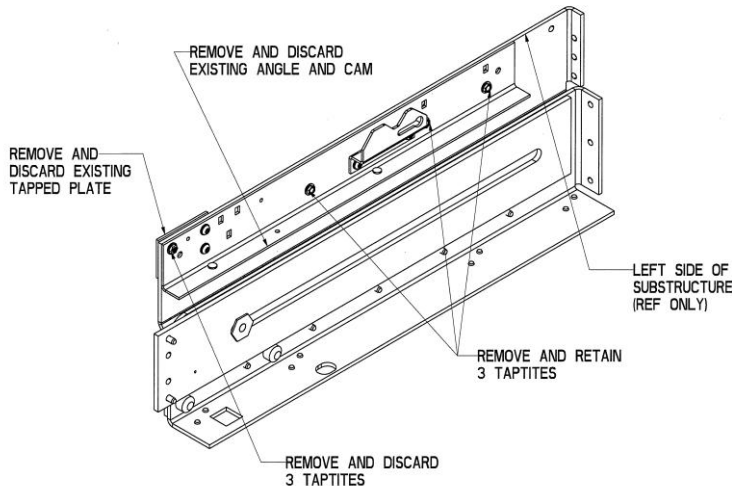

Fig. 1
1. Remove parts as shown in Fig. 1.